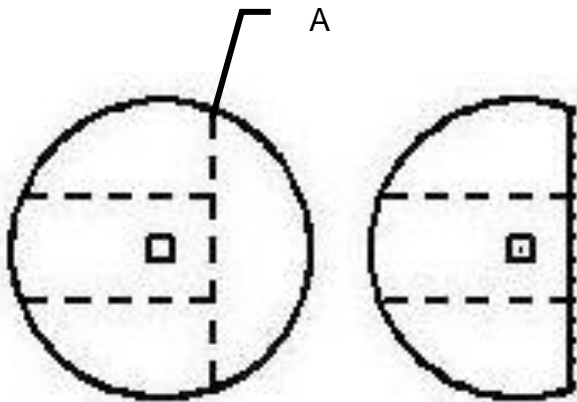
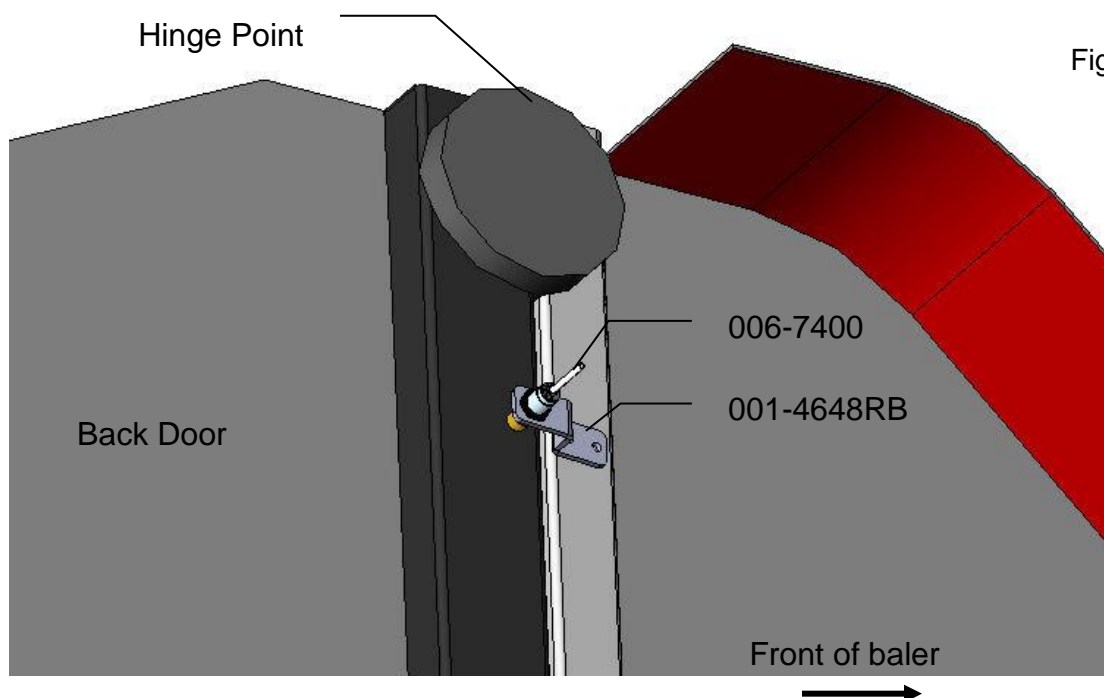

Figure 49a
Figure 64
1. Both moisture discs (006-4641H) will need to be cut along the serrated line (A) (Figure 49a). Only cut on the line shown on Figure 64, do not cut the other line.